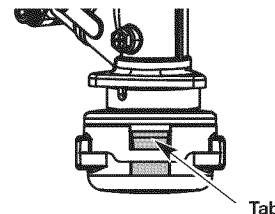

Fig. 18
1. Firmly press in on the tabs that are on each side of the cutting head. (Fig. 18)